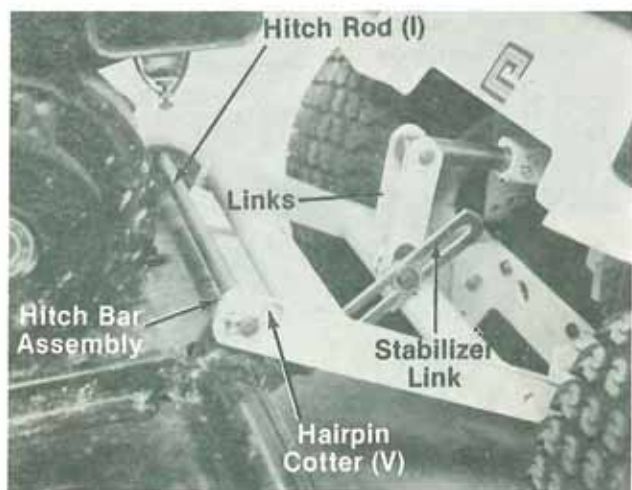

FIGURE 12.
12. Place tiller behind tractor. Secure the hitch bar assembly to tiller with hitch rod (I) and two (2) hairpin cottes (V). See figure 12.
13. Place the stabilizer link (on tiller) up to the hitch bar assembly, then place the links from hitch shaft down to hitch bar. See figures 12 and 13.